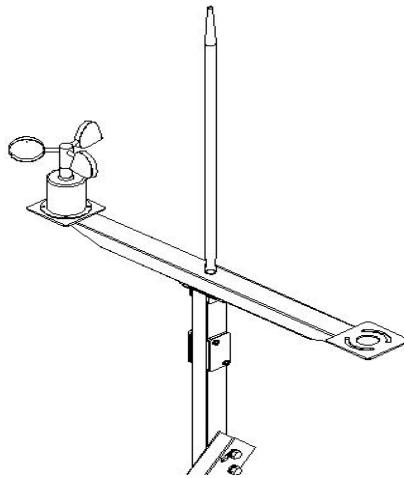

Fig 3-4 Mounting wind speed sensor
(1) Secure the wind speed sensor with M3X12 pan head screws on the horizontal supporting arm. Make sure that the clover leaf wind cup is parallel with the ground, as shown in Figure 3-4.